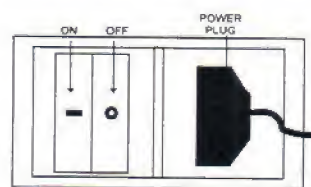

Fig 2. Main Power Switch
3. Notice that there is a pictorial diagram of the controller located on the inside of the front door. This will help you understand the layout of the controller. Figure 2 is the same diagram. Wires for switches and sensor inputs are attached to the right hand side. Wires for lights and the coin counter are attached across the back. Motors are attached down the left side of the controller board or about down the middle of the controller itself. All wiring is color coded. If you should have to detach several wires for any reason, the color code on the wires matches the color code on the layout diagram. The diagram is your guide to reattaching wires correctly.